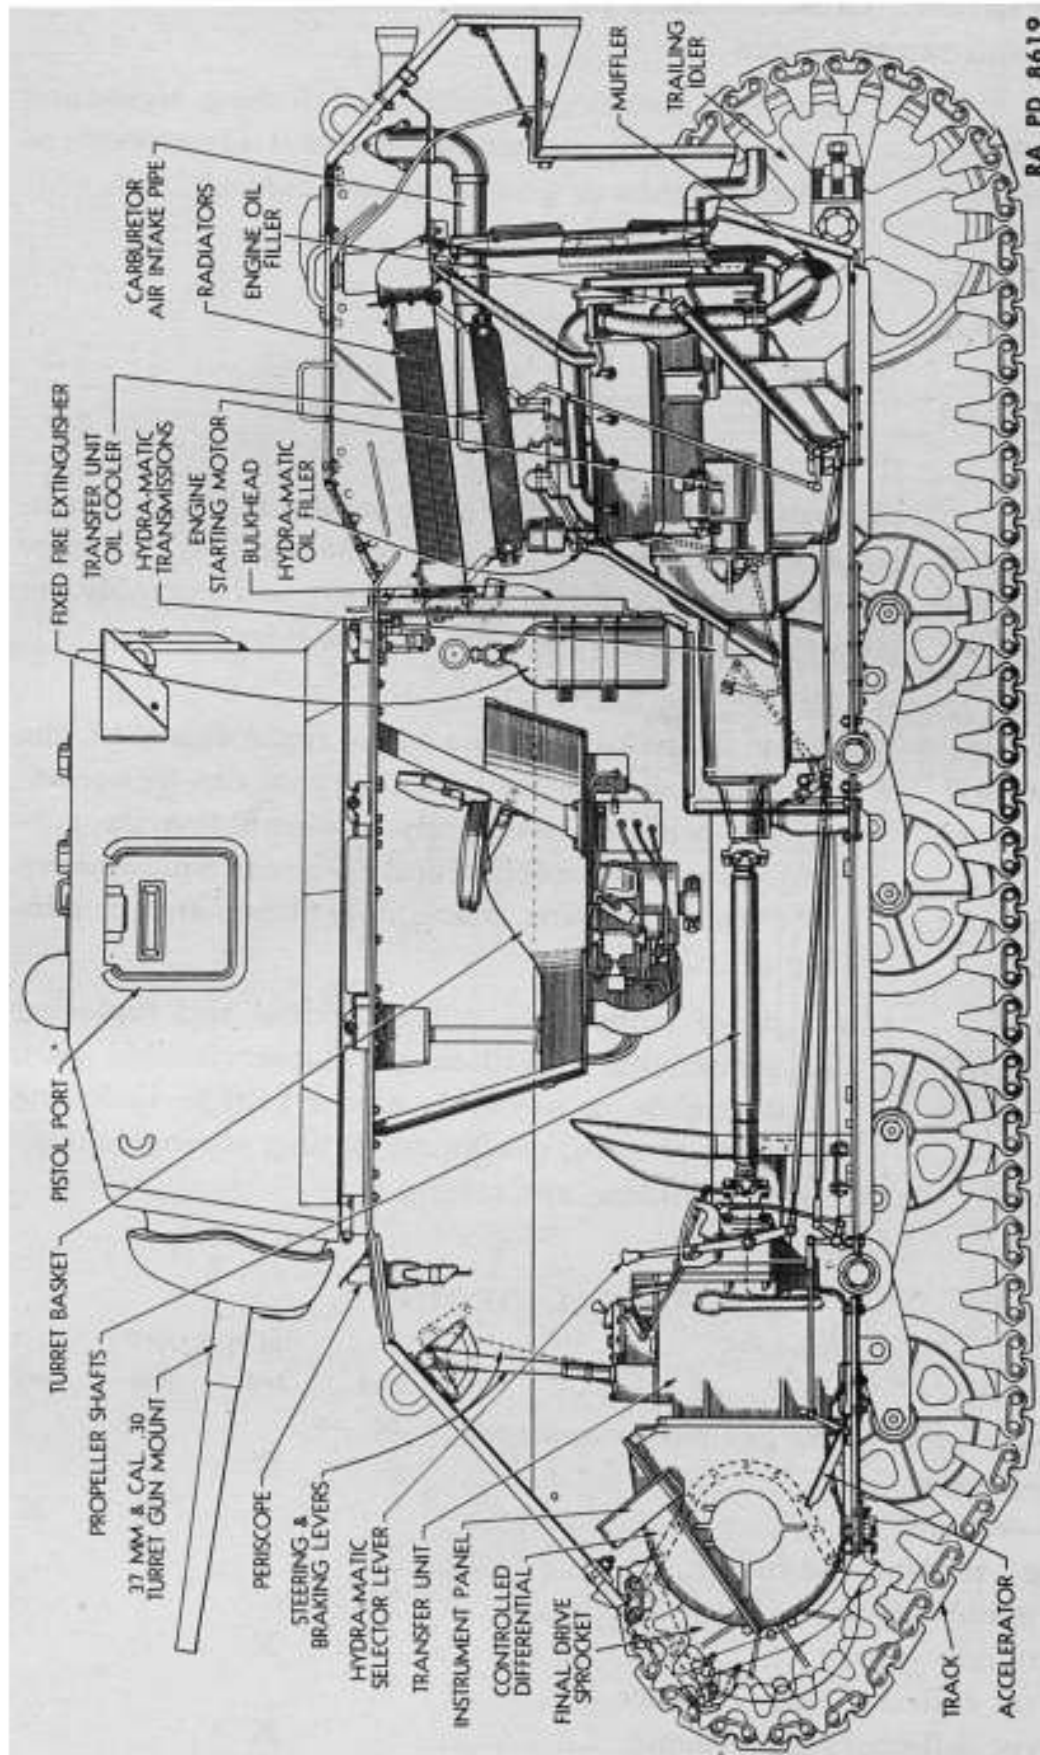

Figure 4 — Light Tank M5, Longitudinal Section
a. The Light Tanks M5 and M5A1 (figs. 1 and 2) are armored, full track-laying combat vehicles which carry a crew of four men. They are powered by two liquid-cooled, 90-degree, V-type, 8-cylinder Cadillac engines, located in a compartment in the rear of the hull. Power is transmitted to the final drives and tracks through two Hydra-Matic transmissions, two propeller shafts, a two-speed transfer unit, and the controlled differential (fig. 4).